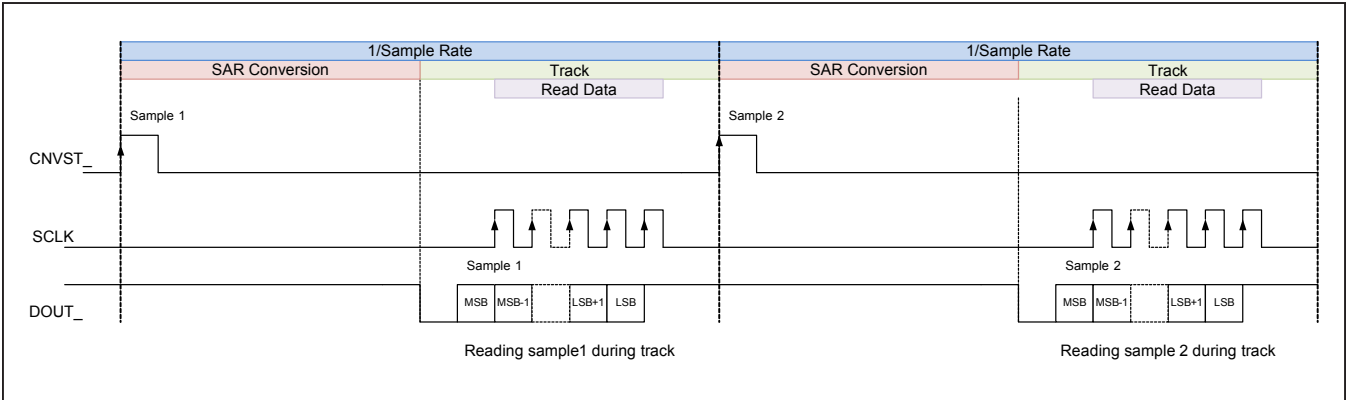
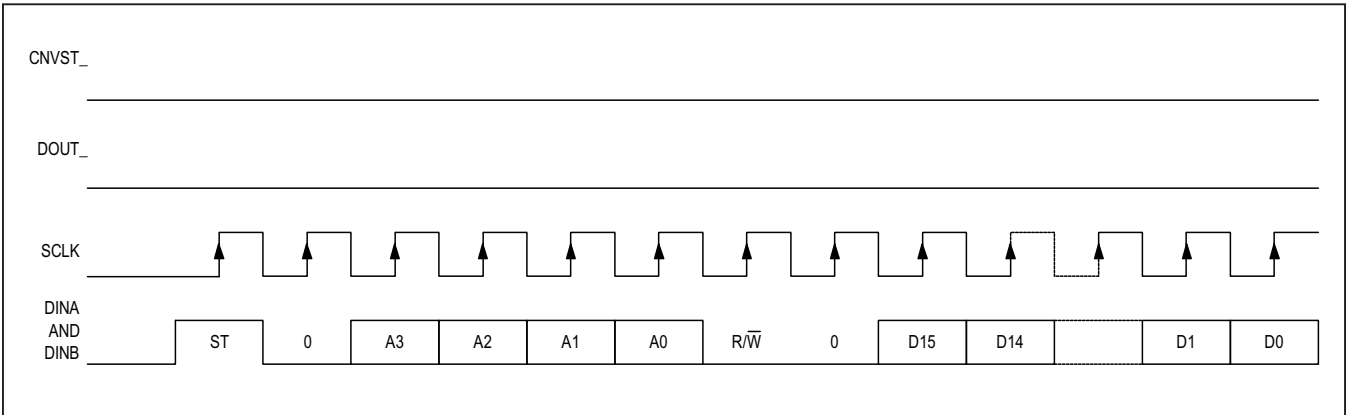

Figure 5. Read During Track Phase
Figure 11. Mode Register Write
- Reading during track phase (Figure 5)
When reading during track phase mode, the data is read only while the ADC is in track mode. Figure 5 shows the SPI signal for this reading mode.
All SPI operations start with a command word. The structure of the command word is shown below. If there is no start bit, i.e., DIN is low, the part will output the conversion result and then go idle (see Figures 5, 6, and 7). The 20-bit mode register is the only register that can be written to. Figure 11 shows the waveform for a mode register write operation.
*Conversion result can also be read as shown in Figures 5, 6, and 7.